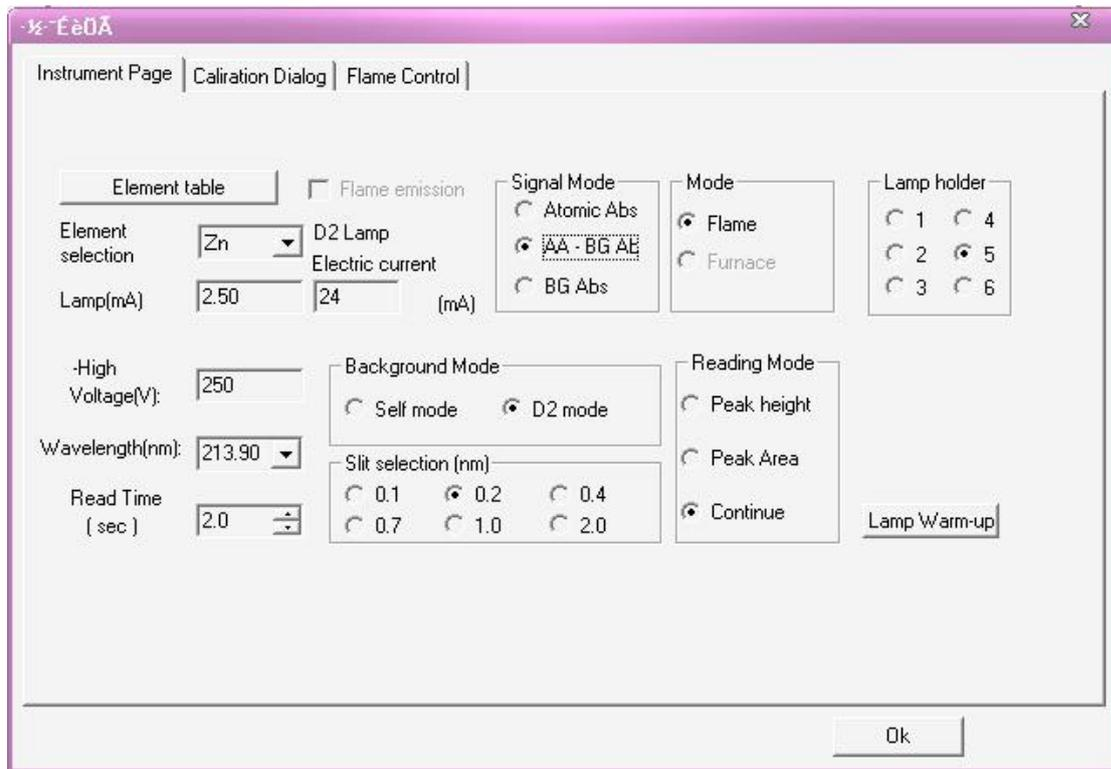

Figure 6-3
4. Select the element of Zn and the signal mode of “AA-BG AE”,the background mode is D2 mode,the corresponding parameter is shown in the figure 6-3